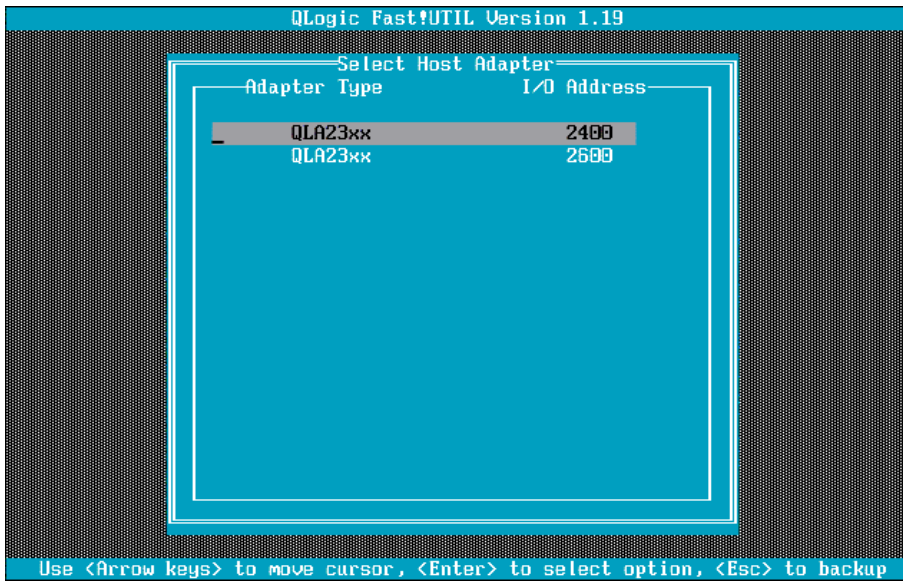

Figure 92. Fast!UTIL Host Adapter Selection
1. Reboot the BladeCenter HS20. When you see the bootup message "Press <CTRL-Q> for Fast!UTIL", press Ctrl-q key sequence. The Fast!UTIL utility will be loaded, shown in Figure 92. Select the adapter at the appropriate I/O Address and press Enter.